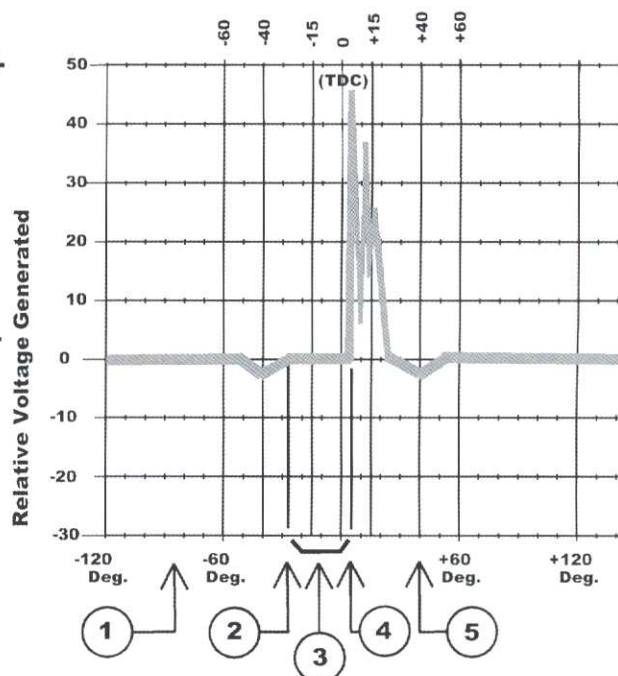

Figure 3-14
Let's look at the voltage graphs in figure 3-14 to see the complete, functioning magneto in action!
A note about figure 3-14: Please remember that these graphs are showing relative voltage, not actual voltage. This is because all of these voltages will depend on how fast your motor (and flywheel) are turning. At idle, you might only see a few volts across the primary winding. At 1,000 RPM, you might see 10 volts (just like with a battery-points based ignition system). At 5,000 RPM, you'll see much higher voltages. (Remember, the faster an engine runs, the stronger the spark generated by a magneto. This is why
The key to understanding magnetos is to remember that it is the **reversing of the direction of the magnetic field in the spark coil armature core that creates the large positive voltage spike**. This positive spike produces the highest current peak in the primary winding. The points opening up at ④ (figure 3-14) converts that current to a 50 to 100 volt spike in the primary winding and the turns ratio between the primary and the secondary magnifies this by another factor